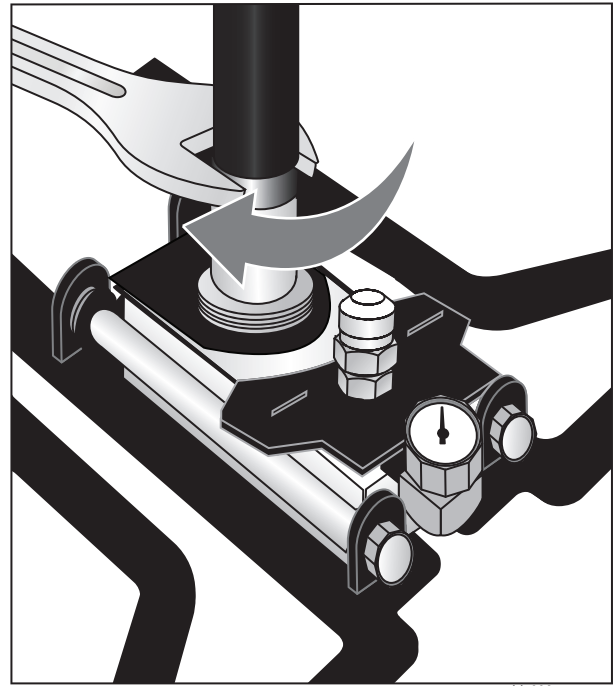

Figure 2. Loosen Outer End Cap
5. Use a 30 mm wrench to unscrew the brass outer body end cap and slide off the pump shaft. See Figure 2.
6. Hold the lower nut (18) with a 24 mm wrench and then with a 17 mm wrench, unscrew the exposed ball/seal retainer nut (23).
7. Pull the piston rod up and out of the pump. Do not lose the two ball bearings (17) in the top of the pump.
8. Below the large lower nut on the pump, there is a large black seal (19). If it is worn, replace it. When you reassemble the pump, add small amount of silicone grease to this seal.
10. On the bottom of the small diameter piston rod, there is a small black seal (21). If it is worn, replace it. The seal on top of the ball/seal retainer nut should not need replacement.
11. On the bottom of the piston, there is a small green seal (22). Carefully remove this seal and apply a small amount of silicone grease to the replacement.